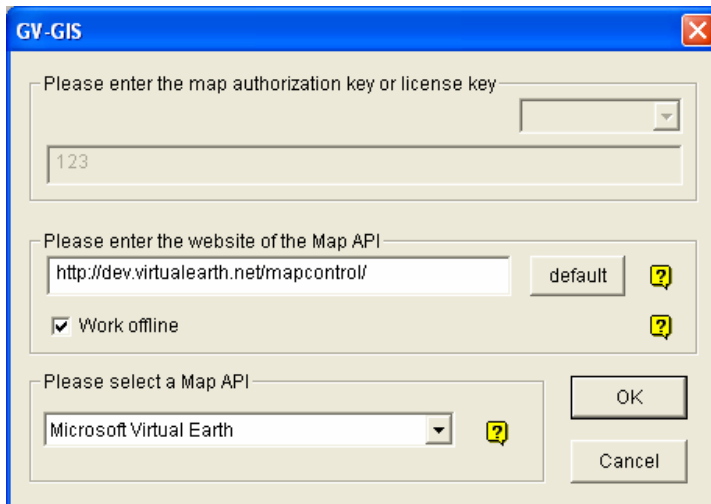

Figure 4-55
- If you like to use the maps created yourself, overwrite the files at :GV folder\GIShtm-User, and select **User Defined** from the “Please Select a Map API” drop-down list (Figure 4-55).